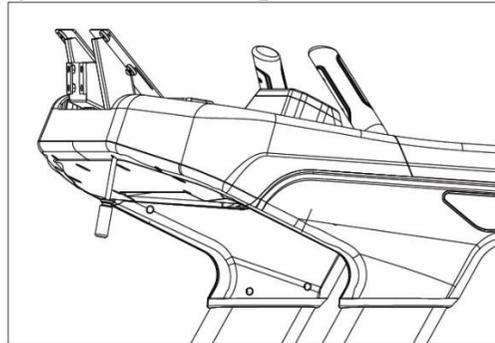

Figure 4.9.1
- 6) As shown in Figure 4.9.1, remove the 18 screws from the upper bracket and remove the bracket cover.